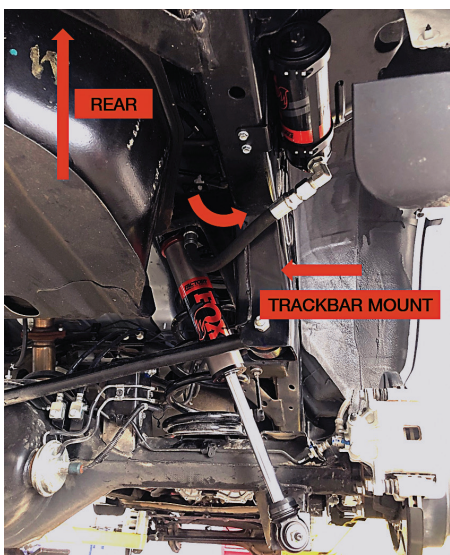

Figure 14: Right rear reservoir hose routing
- b. For right side shocks: route the reservoir and hose behind the track bar mount and up onto the reservoir bracket (Figure 14).